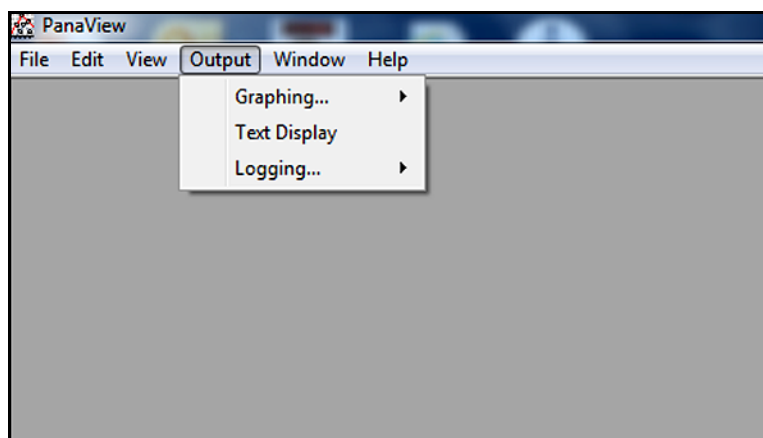

Figure 61: The Output Menu
To access PanaView's data handling options, pull down the "Output" menu, as shown in *Figure 61* below.
2. Pull down the “Output” menu and click “Text Display” option (see Figure 61 on page 51).
2. Pull down the “Output” menu and click “Graphing - New” option (see Figure 61 on page 51).